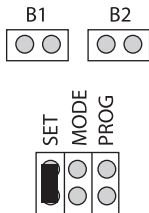

Fig. No 24
5. Set the jumper on SET pins. See Fig. No. 24 for correct jumper position.